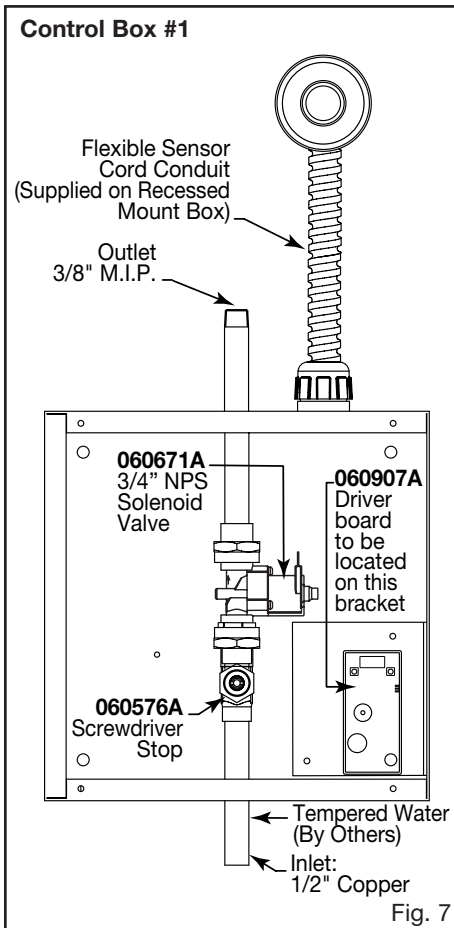
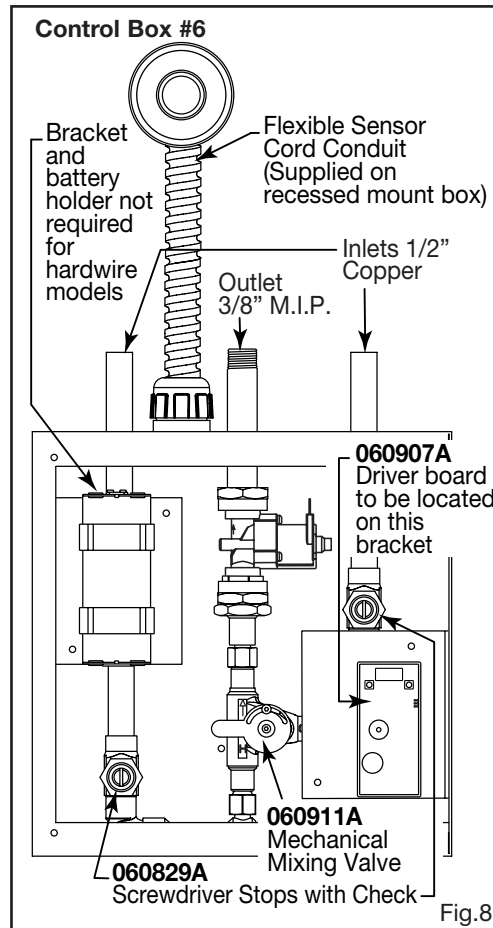
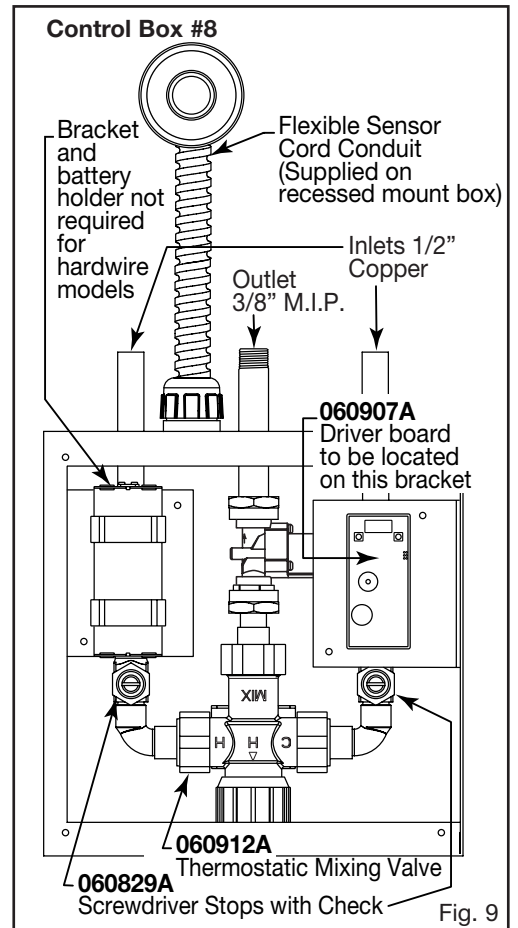
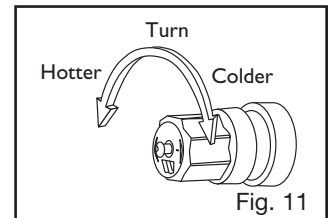

Fig. 7
Fig. 8
Fig. 9
Fig. 11
Install sink and connect drainage to rough in. See applicable **Fig. 7**, **Fig. 8** or **Fig. 9**. Please note that the connection tube and fittings are supplied by the **installer** to connect the 3/8" MIP at the box outlet and compression joint for 3/8" O.D. Soft copper tube at the spout. Connect water supply through to spout. Assure supply lines are completely flushed and free of debris.
- 4C** If **Mechanical Mixing Valve** (060911A) (**Fig. 8**) Adjust setting to the desired temperature and lock in place by tightening the vandal resistant screw.
If **Thermostatic Mixing Valve** (**Fig. 9**) Adjust setting of the Thermostatic Mixing Valve to obtain the desired temperature (counterclockwise, to increase temperature – clockwise to decrease temperature). (**Fig. 11**)